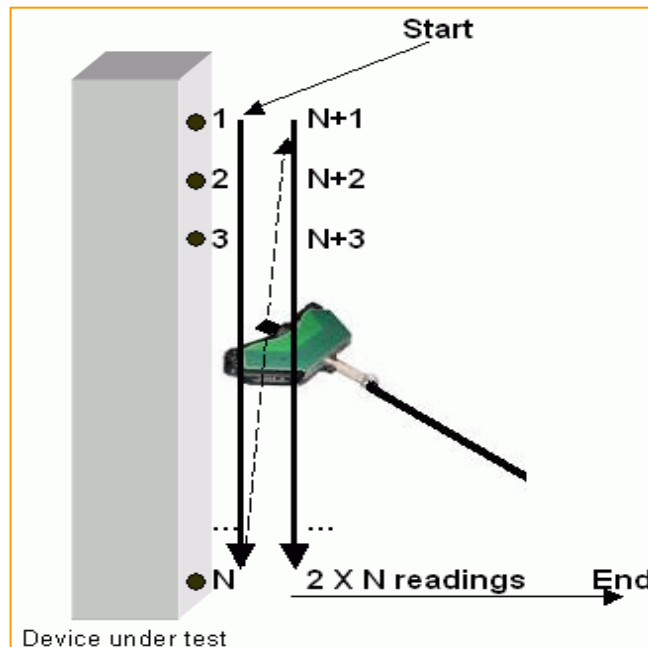

Figure 13
2. The scanning session consists of testing of N points. Per Figure 13, best practice in scanning is to take readings by pressing the pressure switch of the Probe against the insulator, starting at the upper end and progressing toward the lower end of the insulator.